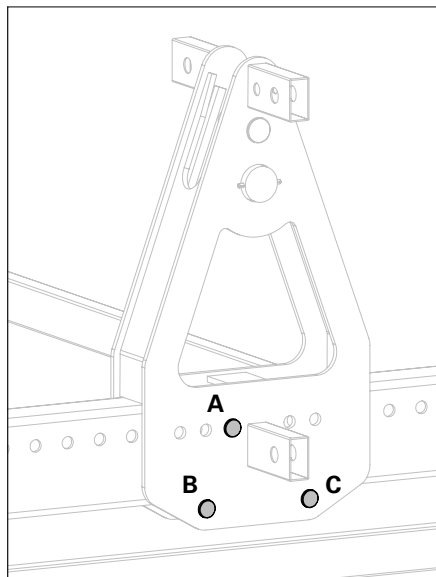

Fig. A11.02a – Fixed bearing – bolted to the Ledger.
1. Place Bearer (36) on the Ledger (27).
2. Install one Bolt (36a) and Cotter Pin (36b) respectively in A + B + C – 3x. → Fixed bearing. (Fig. A11.02a)